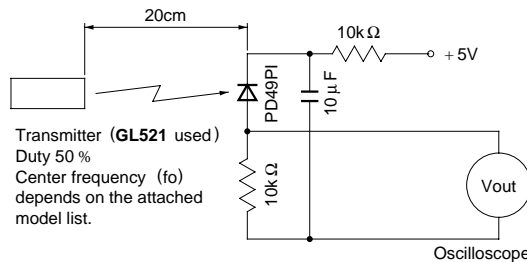
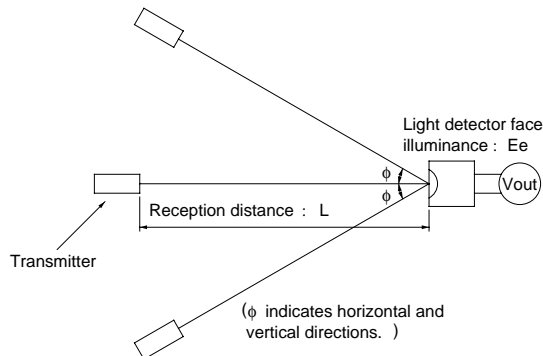

Fig. 1. Transmitter
Fig. 2. Standard optical system
*3 The burst wave as shown in the following figure shall be transmitted by the transmitter shown in Fig. 1.
Using the transmitter shown in Fig. 1, the output signal of the light detecting unit is good enough to meet the following items in the standard optical system in Fig. 2.
When $L = 0.2$ to 8m , ${}^*5E_e < 10\text{ lx}$ and $\phi = 0^\circ$ in Fig. 2, the output signal shall meet the electrical characteristics in the attached list.
When $L = 0.2$ to 6m , ${}^*5E_e < 10\text{ lx}$ and $\phi \leq 30^\circ$ in Fig. 2, the output signal shall meet the electrical characteristics in the attached list.
When $L = 0.2$ to 4m , ${}^*6E_e \leq 300\text{ lx}$ and $\phi = 0^\circ$ in Fig. 2, the output signal shall meet the electrical characteristics in the attached list.